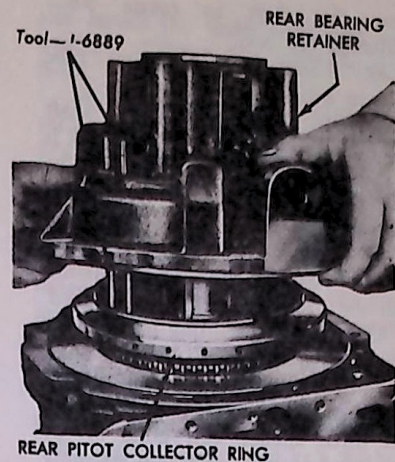

FIG. 62 Rear Bearing and Pitot Tube Installation
30. Place the pitot tube in the rear pitot collector ring with the tube portion toward the vanes and the guide bolts toward the rear of the transmission (Fig. 62).